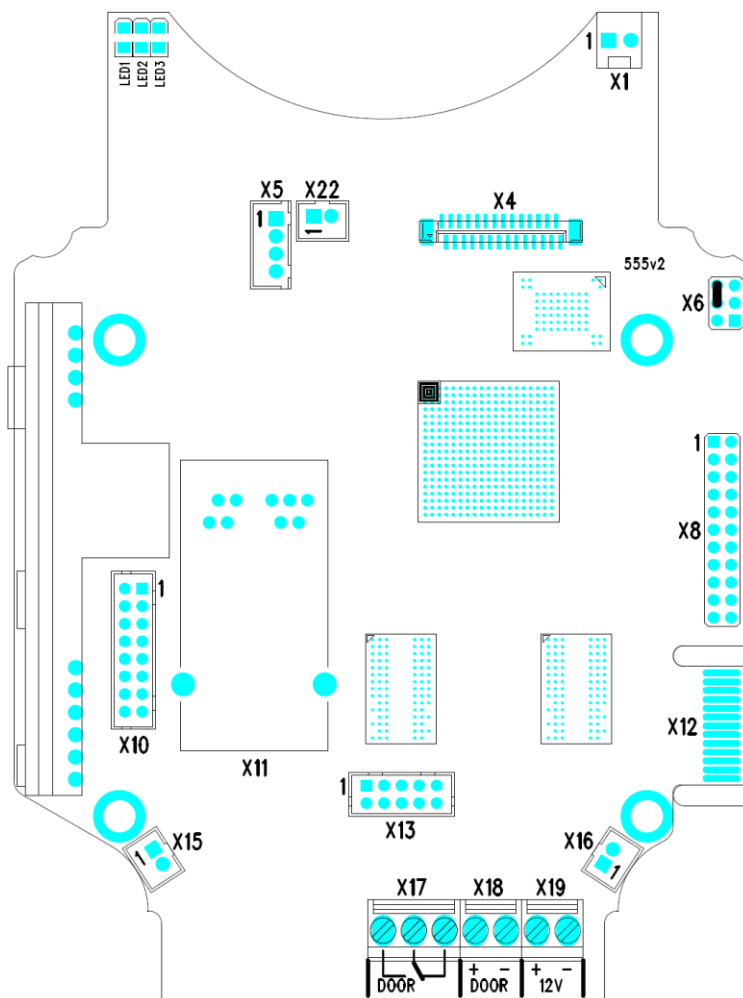

Figure 2.11 2N® Helios IP Force Connectors, PCB Version 530v2
**Fig. 2.11** shows the lay-out of connectors on the 2N® Helios IP Force printed circuit board (PCB). Cables, accessories and other system components are connected to connectors X1 through X22.